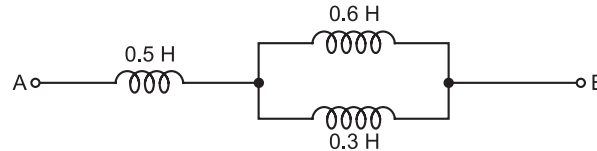

Fig. 9.25
**Example 9.39.** Find the equivalent inductance  $L_{AB}$  in Fig. 9.25.